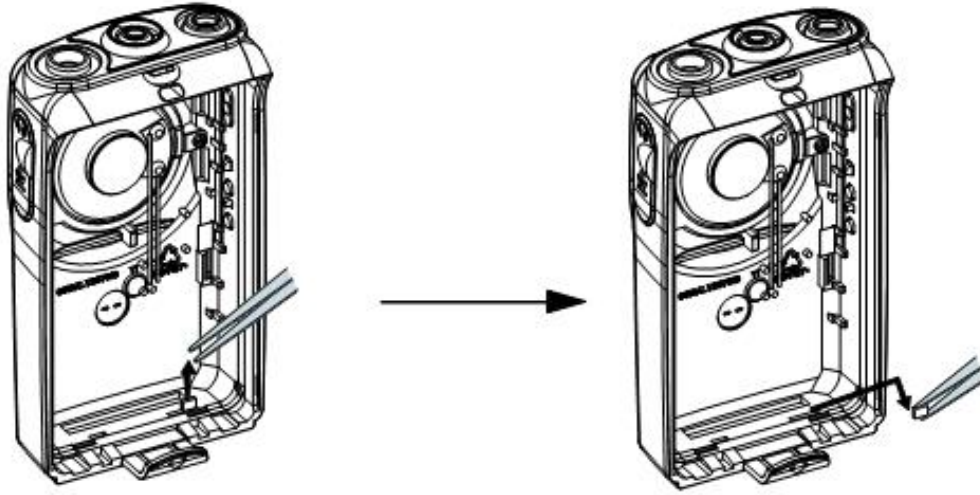

Figure 2-5
11. With the battery latch on the housing, push the shaft in the housing slot to the right (see “Figure 2-5”).